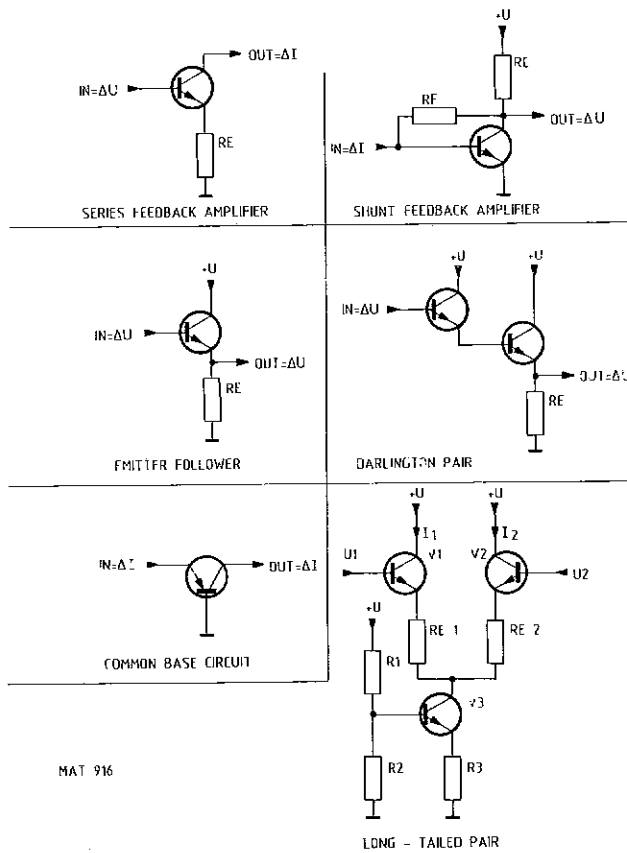

Fig. 2.8. Basic analog circuits
2.8.1. Basic analog circuits (See Fig. 2.8.)
In the diagram of Fig. 2.8, the long-tailed pair is formed by transistors V1 and V2. Transistor V3 functions as a constant-current source for V1 and V2.